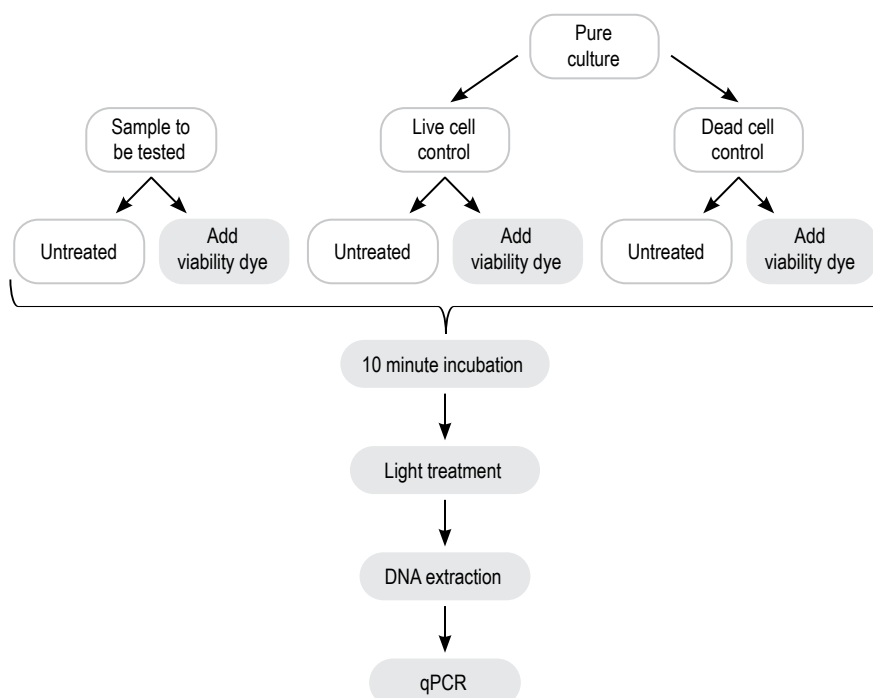

Figure 2. v-PCR workflow overview, with recommended live and dead cell controls.
8. In order to validate PMAxx™ effectiveness in your sample of interest, it is best to perform live cell and dead cell controls, each with and without PMAxx™ (Figure 2). The change in Ct (dCt) caused by PMAxx™ for each control should be assessed (see Data Analysis).
See Figure 2 for an overview of the procedure. This is a general protocol for treating cultured strains of bacteria with PMAxx™. It is recommended that you first perform a control experiment with live and dead controls for your selected organism. Treatment of complex samples, such as feces or soil, may require optimization of sample dilution, dye concentration, and light treatment time. Treatment of dilute samples, such as water testing, may require filtration or concentration before PMAxx™ treatment.
- 1.3 Pipette 400 μ L aliquots of bacterial culture into clear microcentrifuge tubes. For each sample you will need one tube for PMAxx™-treated cells and one tube for untreated (no dye added) in order to calculate dCt (see Figure 2, Considerations for Viability PCR #8, and Data Analysis for details).